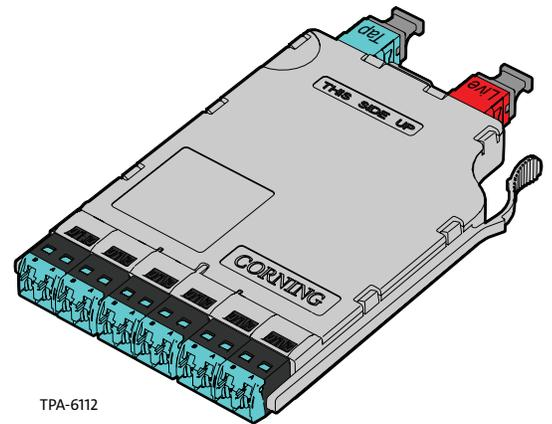

Figure 1
**1.1** This procedure describes EDGE™ LC-MTP Tap Modules, which are available for both multimode and single mode applications. Compatible with all EDGE rack-mountable connector housings, LC-MTP Tap modules have twelve front-mounted shuttered LC adapters and two rear-mounted MTP connectors (Figure 1).